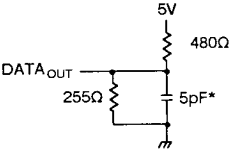

Figure 2. Output Load
- 3. Transition is measured -200mV from steady state voltage with specified loading in Figure 2.